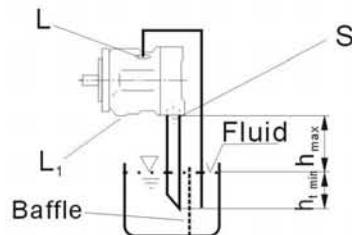

Fig.4
- If the minimum fluid level is equal to or below the top of the pump, pipe ports "L" and possibly "S" as Fig.4.; close port "L1".
- When mounting above the reservoir, see fig.4. Conditions according to 1.2.1.